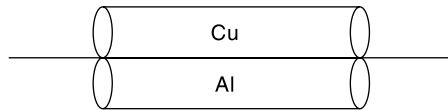

Fig. 1.11
13. A copper rod of length 20 cm and cross-sectional area $2 \, \text{mm}^2$ is joined with an identical aluminium rod, as shown in Fig. 1.11. Find the resistance of the combination along its length and between the ends. Assume $\rho_{\text{cu}} = 1.7 \times 10^{-8} \, \Omega \cdot \text{m}$; $\rho_{\text{al}} = 2.6 \times 10^{-8} \, \Omega \cdot \text{m}$. (Ans: 1.0 m Ω)